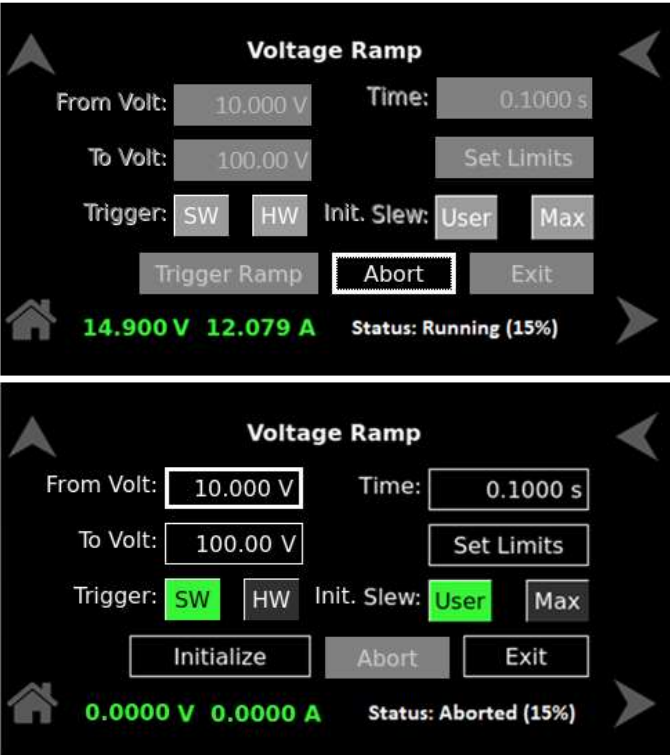

Figure 8-58. Abort
**Abort** User can abort the process at any stage of the ramp execution. The progress of the operation is displayed in the status on the right side of the screen. Refer to Figure 8-58.